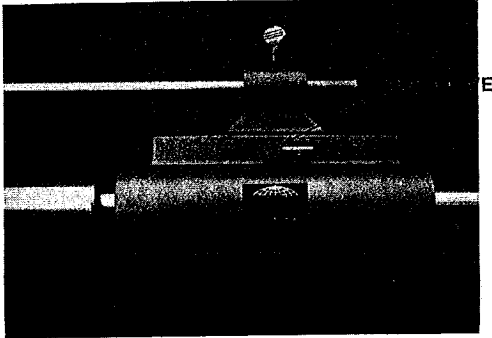

Fig 9 Feed Unit
1. After mounting the feed unit to the engine block and locking the feed shaft into the boring bar, turn the valve on the feed unit to the "OPEN" position and move the feed unit towards the block. Tighten the thumb screw on the feed unit to secure it to the torsion bar and tighten the Square Head Set Bolt in the torsion bracket to stabilize the feed unit. Now slide the boring bar through the block until the feed unit stops the movement of the bar and turn the valve on the feed unit to the "CLOSED" position. (See Fig 9)